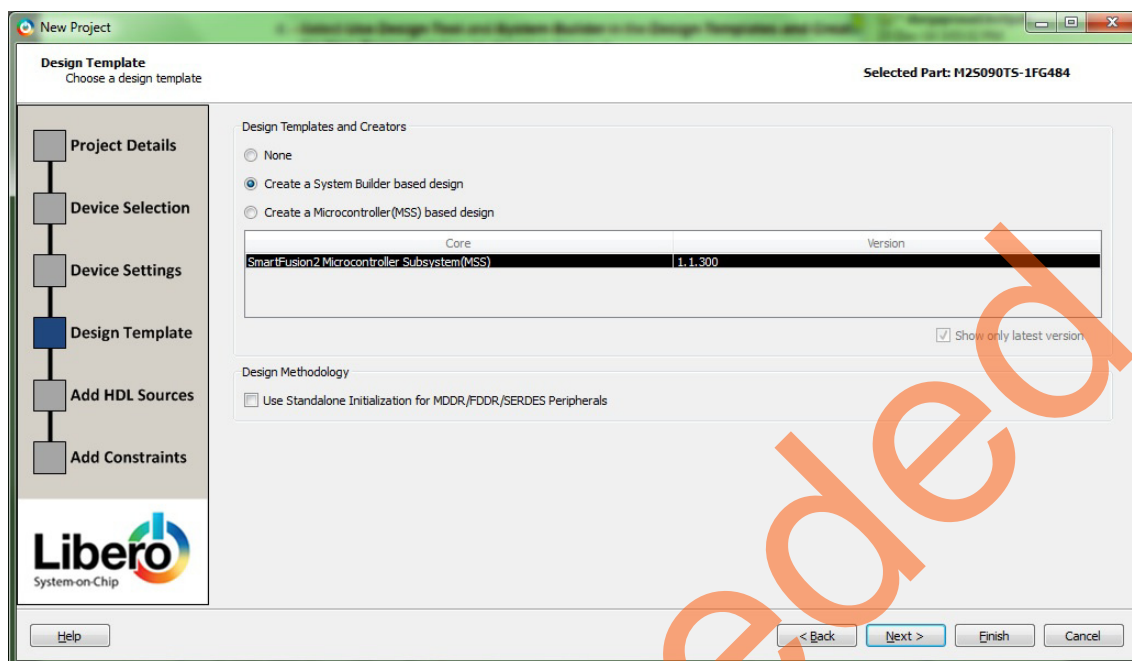

Figure 6 • Device Template Page
6. Click **Next**. This opens **Design Template** page as shown in Figure 6. Under Design Templates and Creators, select **Create a System Builder based design**.